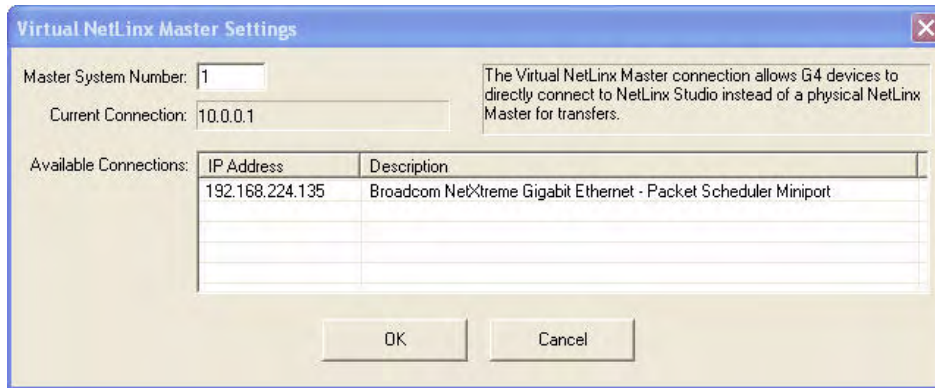

FIG. 36 Virtual NetLinx Master Settings dialog box
- Click the **Edit Settings** button to open the *Virtual NetLinx Master Settings* dialog (FIG. 36).